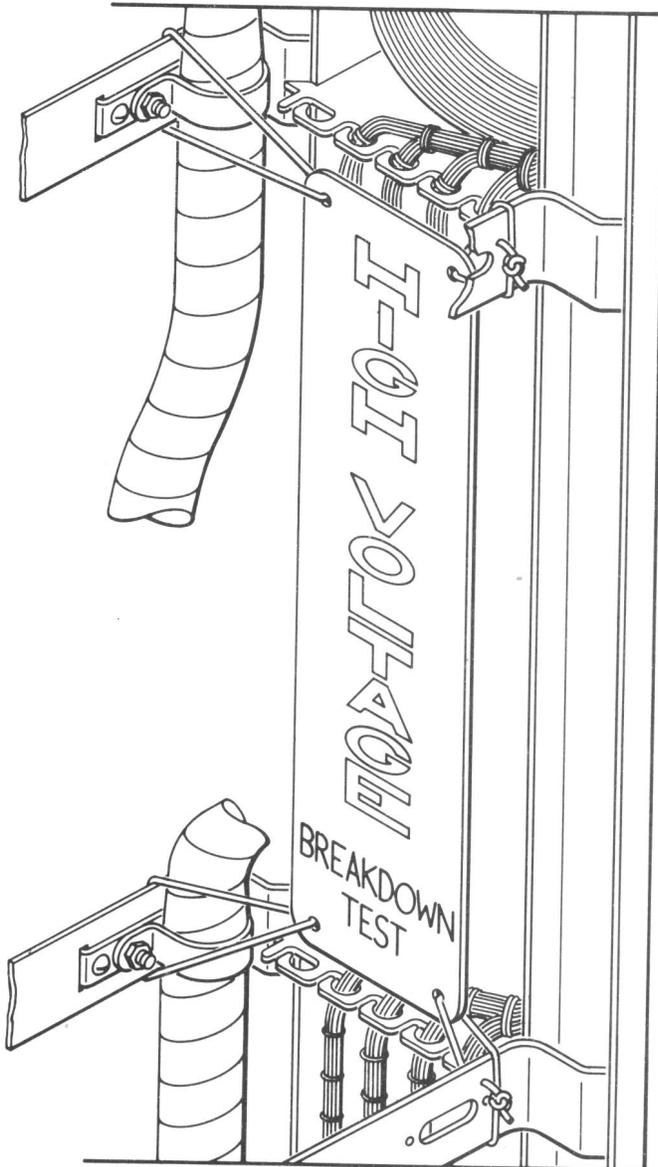

Fig. 2—E Warning Sign Installed on Backside of 302-Type Connector
3.04 An E-warning sign (AT-8325) (Fig. 2) should be mounted from the two wiring horns at the rear of the protector frame so that the sign covers the back of the 302-type connector. The E-warning sign comes with cords for mounting which may be tied around the wiring horns, cross arm supports, cable stubs, ground bars, or through fanning strip holes, whichever is most accessible.
4.02 20A Circuit Guard: The 20A circuit guard (shown installed in Fig. 2) prevents accidental removal of protector units from the protector frame connectors. It is intended to be used on circuits requiring Special Service Protection (SSP) or Special Safeguarding Measures (SSM) protection. The guard is designated to be used with the 3A, 4A, or 5A protector units.